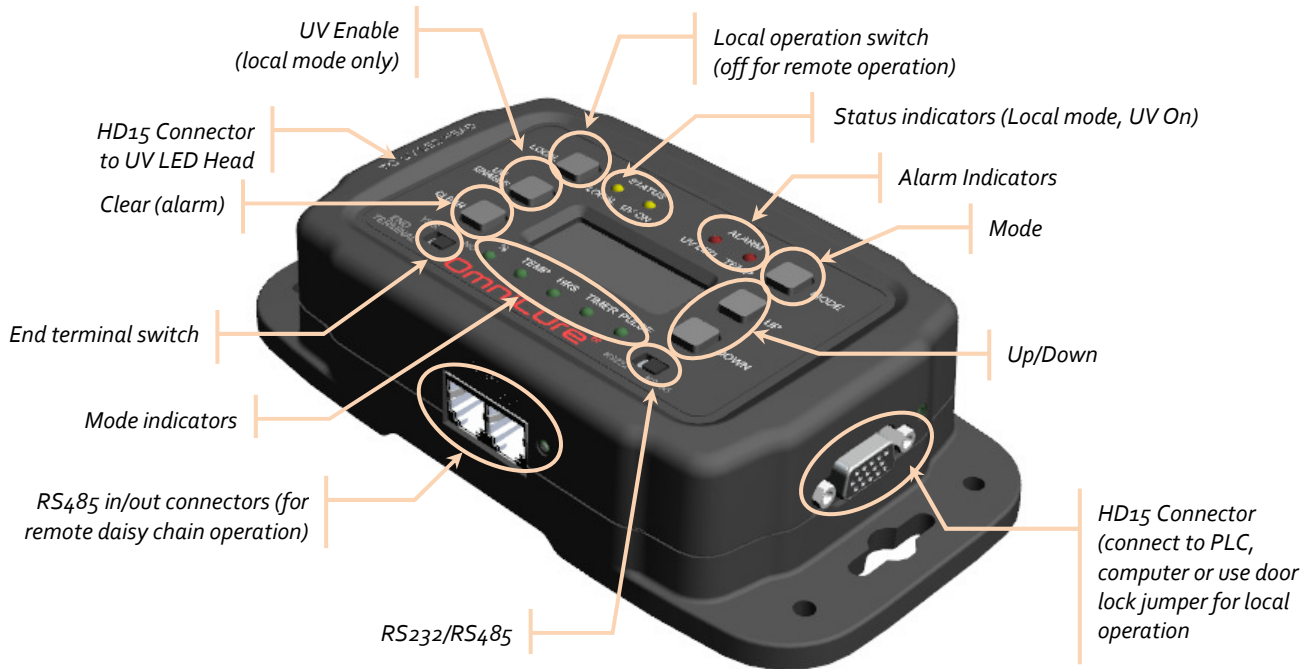

Figure 2 PLC2000 Remote Control Console
4. Connect the PLC loop-back connector to the PLC pass-through port (see Figure 2)
6. Adjust intensity using the up or down buttons to the right of the display (see Figure 2) to increase and decrease the intensity respectively. Refer to Section 6, “Using the LED Head”.
7. UV LED & Temperature faults will be indicated by an illuminated LED on the control console. To clear, press the Clear Fault button (see Figure 2).